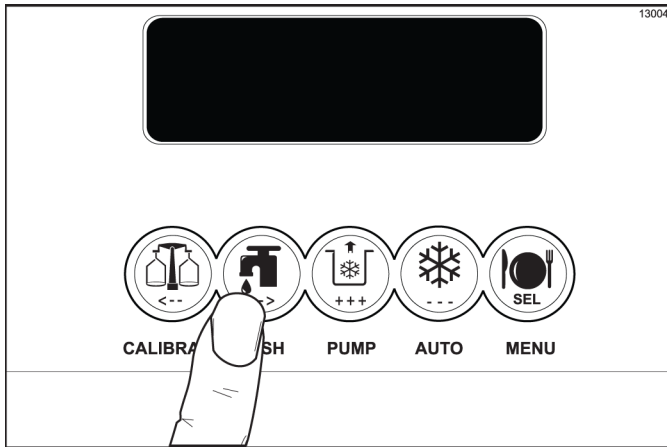

Figure 6-72
2. With a pail beneath the door spout, press the WASH key. (See Figure 6-72.)